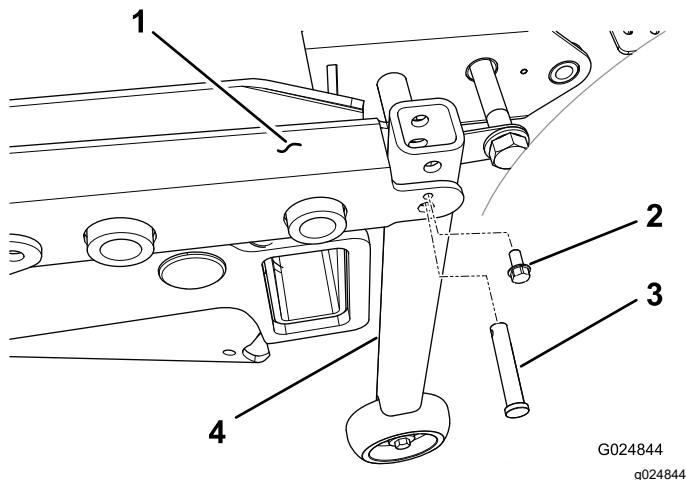

Figure 47
2. On machines that have a serial number less than 312999999, install the vertical tube support assembly to each rear corner of the deck frame with a clevis pin and a self-tapping screw (1/4 inch) (Figure 47).